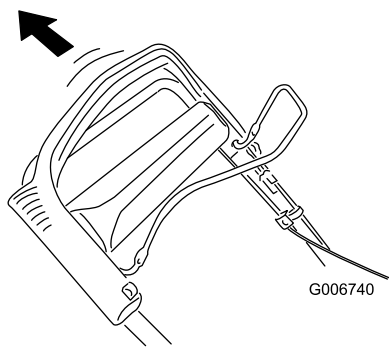

Figure 24
2. Pull the upper handle back as far as possible (Figure 24).